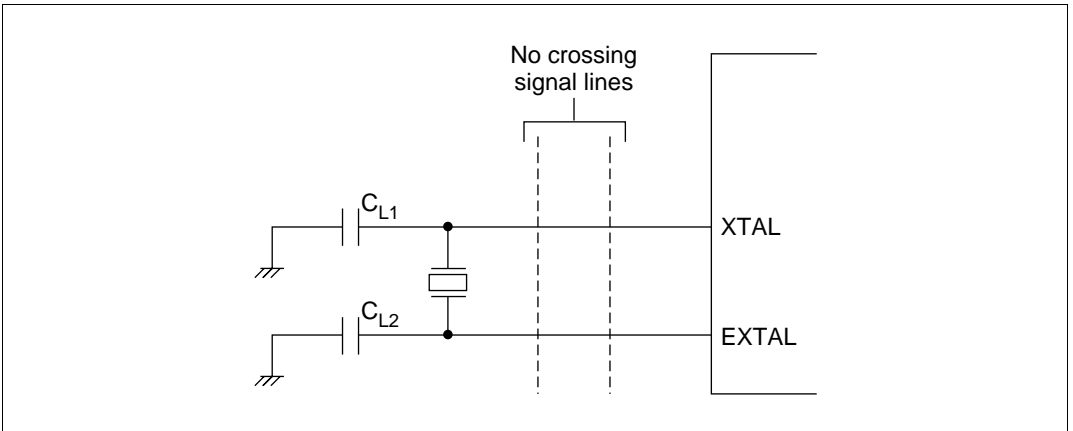

Figure 7.6 Precaution on Oscillator Circuit Board Design
An external clock signal can be input at the EXTAL pin as shown in figure 7.6. The XTAL pin should be left open. The frequency must be equal to the system clock (CK) frequency. The specifications for the waveform of the external clock input are given below. Make the external clock frequency the same as the system clock (CK).
Board design: When designing the board, place the crystal resonator and its load capacitors as close as possible to the XTAL and EXTAL pins. Route no other signal lines near the XTAL and EXTAL pin signal lines to prevent induction from interfering with correct oscillation. See figure 7.6.